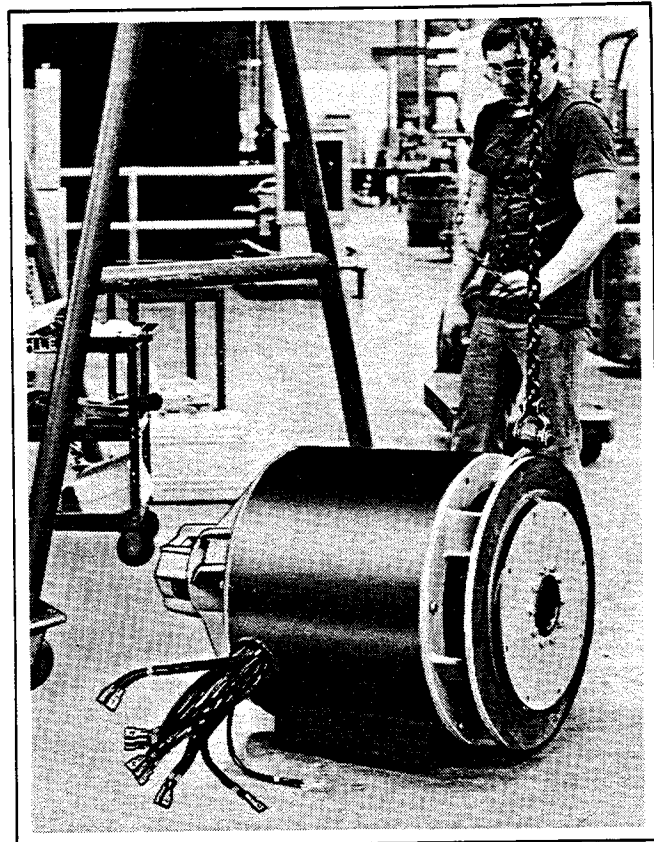

Figure 5-14. Generator Handling
8. Hoist assembled generator by adapter and set on side taking care not to damage end bracket or stator. See Figure 5-14.